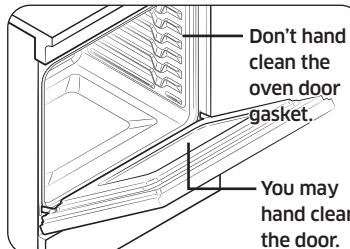

Fig. 2
- Residue on the front frame of the range and outside the gasket on the door will need to be cleaned by hand. Clean these areas with hot water, soap-filled steel-wool pads, or cleansers, such as Soft Scrub. Rinse well with clean water and dry. (Fig. 2)
- Do not clean the gasket. The fiberglass material of the oven door gasket cannot withstand abrasion. It is essential for the gasket to remain intact. If you notice it becoming worn or frayed, have it replaced. (Fig. 2)